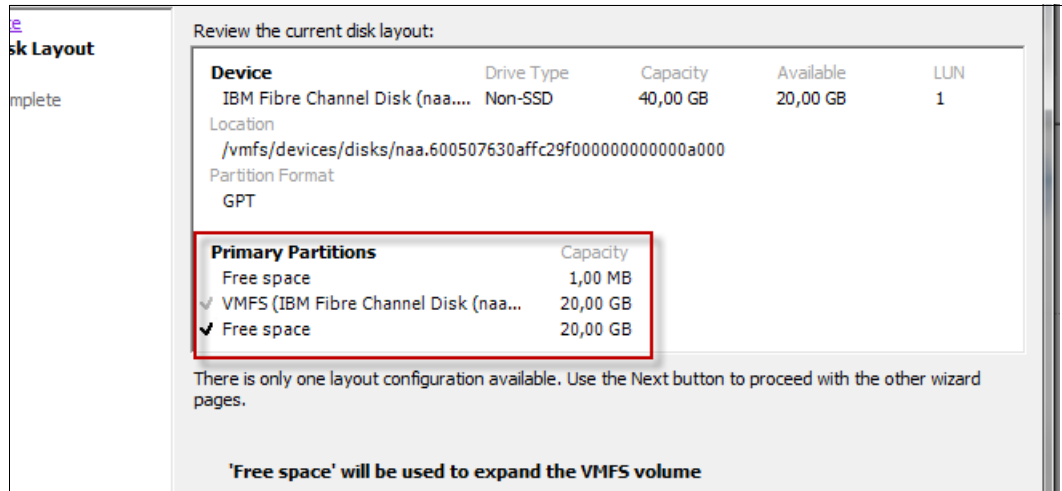

Figure 7-22 Disk layout
- e. Review the current disk layout as in Figure 7-22 and ensure that it only contains free space besides the already existing VMFS partition.